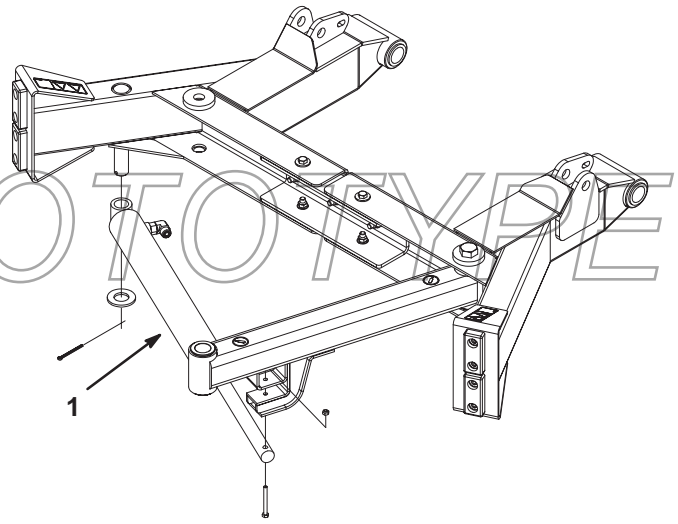

Figure 11
7. Secure cylinder to post on underside of right lift arm with a 1.063 x 2.000 flat washer and cotter pin (Fig. 11).
8. Secure shaft end of cylinder to mounting gusset on under side of left brush arm with a M6–1 x 60 capscrew and M6 locknut (Fig. 11). Torque to 87–105 in–lb.